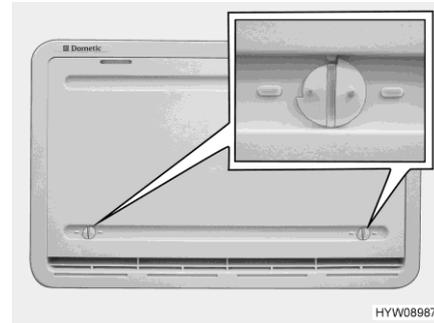

Fig. 197 Winter cover (refrigerator ventilation grill)
The winter covers (Fig. 197) protect the cooling unit against cold air. Place winter covers in front of both refrigerator ventilation grills when the external temperature falls below +10 °C (both for gas and electrical operation).
- Open both locks (Fig. 197) (groove in horizontal position).